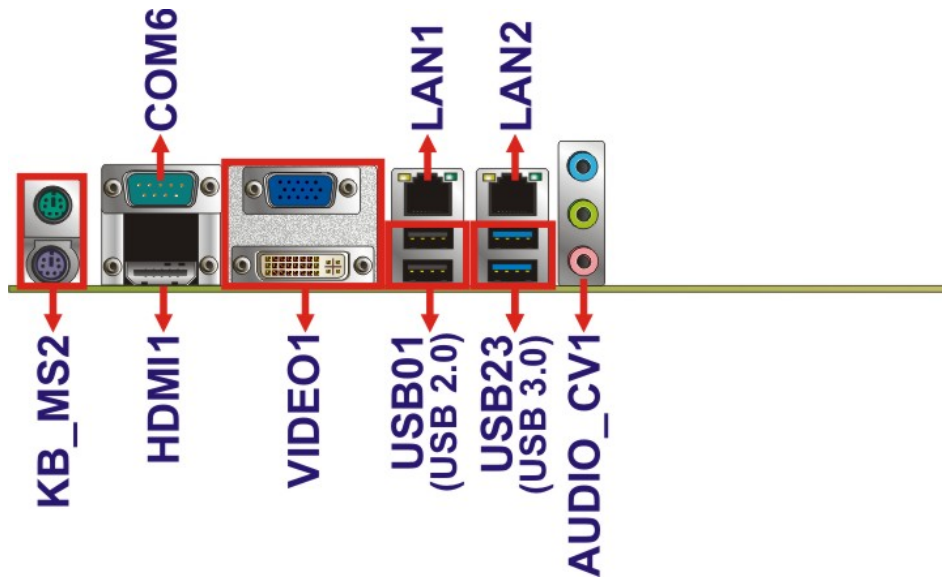

Figure 3-27: External Peripheral Interface Connector
CN Location:	See Figure 3-27
- CN Location:** See **Figure 3-27**
The USB connector can be connected to a USB device. The USB 2.0 ports are labeled as USB01 and the USB 3.0 ports are labels as USB23. Please refer to **Figure 3-27**.